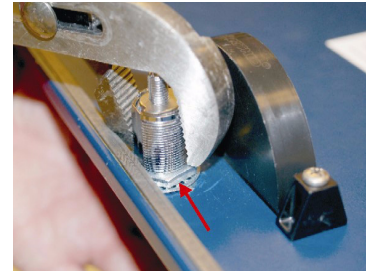

Figure 15 Place nut over cylinder and tighten
4. Screw the nut onto the lock cylinder and tighten the ring using the channel-type pliers (Figure 15).